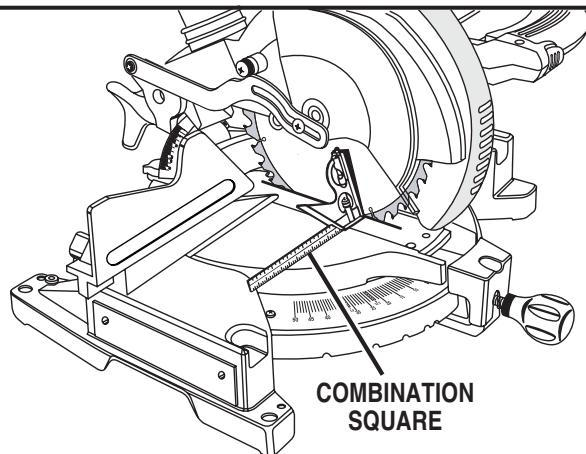

Fig. 19
- If the top or bottom of the saw blade angles away from the square as shown in figures 19 and 20, adjustments are needed.